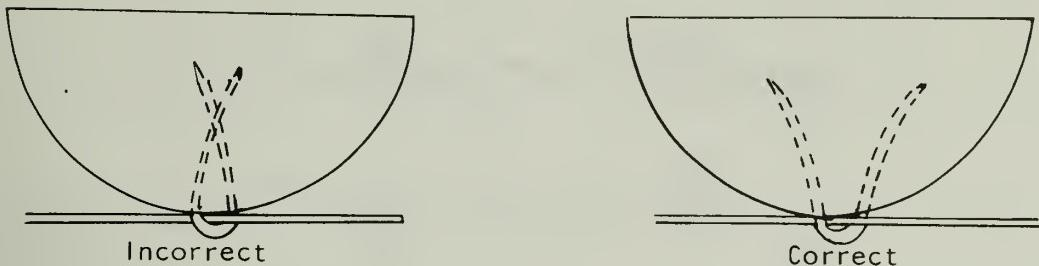

Figure 36
3. Staples with slash points should be driven so their legs curve outwards as they penetrate the wood (Fig. 36). The slash cut acts as an asymmetrical wedge forcing the leg to curve away from the flat surface. Tests show that staples driven so that each leg curves away from the